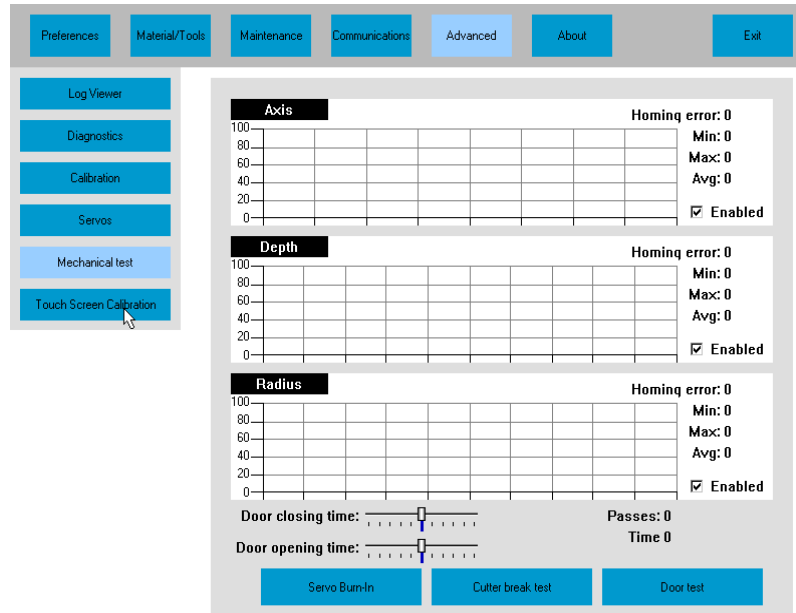

Figure 5.5: Mechanical Test Screen
- Mechanical Test Screen (Figure 5.5)
Figure 5.5 shows the Mechanical Test Screen. The table following the figure describes the graphic elements displayed on the Setup Screen.